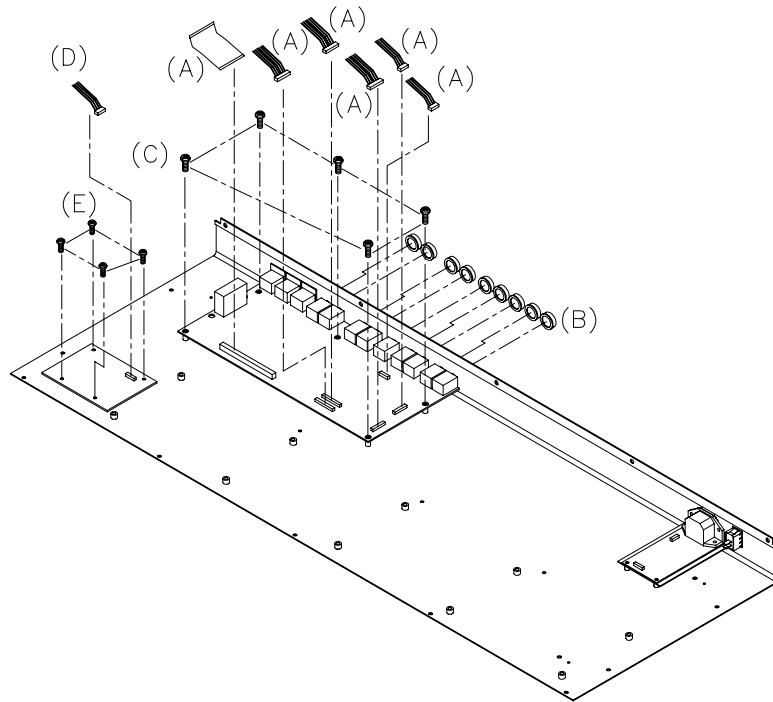

Fig.3
3. REMOVAL OF MAIN P.C.B AND ASSY PCB PITCH/MOD WHEEL LED (Fig.3)
- (A) REMOVE 6 PCS OF CABLE CONNECTOR FROM MAIN PCB
- (B) REMOVE THE 9 PCS NUT OF 1/4" CONNECTORS FROM REAR PANEL
- (C) REMOVE THE 5 PCS SCREW FROM WHICH MAIN PCB
- (D) REMOVE 1 PC OF CABLE CONNECTOR FROM PCB PITCH/MOD WHEEL LED
- (E) REMOVE 4 PCS OF SCREW FROM PCB PITCH/MOD WHEEL LED